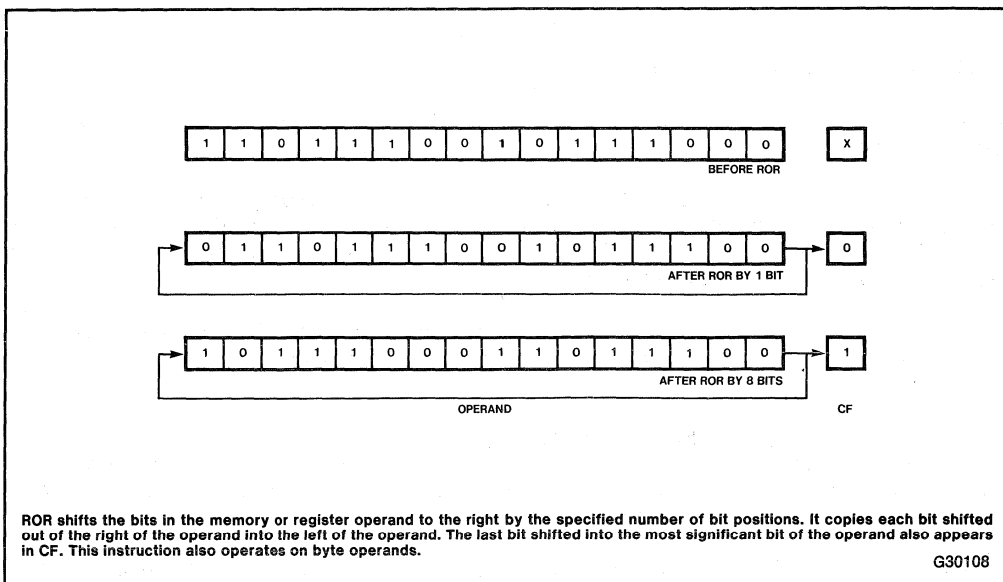

Figure 3-10. ROR
*ROR (Rotate Right)* rotates the byte or word destination operand right by one or by the number of bits specified in the count operand (an immediate value or the value contained in CL). For each rotation specified, the low-order bit that exits from the right of the operand returns at the left to become the new high-order bit of the operand. See figure 3-10.